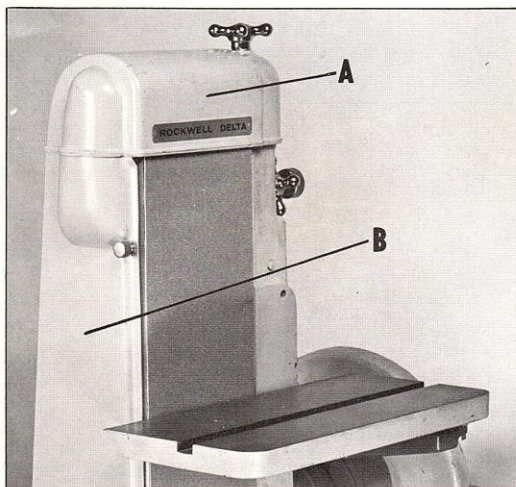

Fig. 3.
1. Remove the idler drum guard (A) Fig. 3, and the side guard (B).